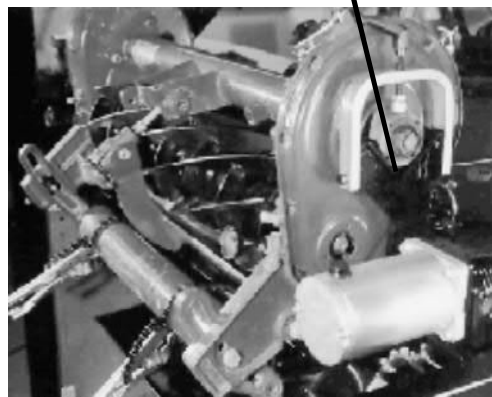

FIG. 20
- On ground drive fairway mowers with exposed hubs, you should use the **OPTIONAL** Pull Gang Reel Mount Kit 5NT18574. Normally the upper brackets will be positioned in the top two holes of the lower supports with the offset "V" facing toward rear of the machine. See FIG. 20.